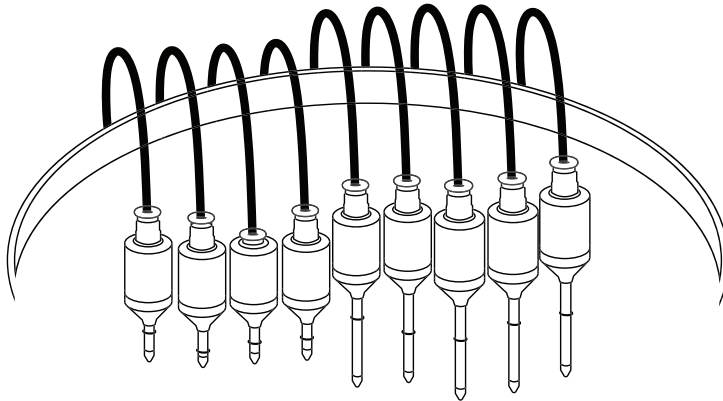

Figure 88 Determining air-entry point
- Equipment to mount the shaft refilling adapters (Figure 88)